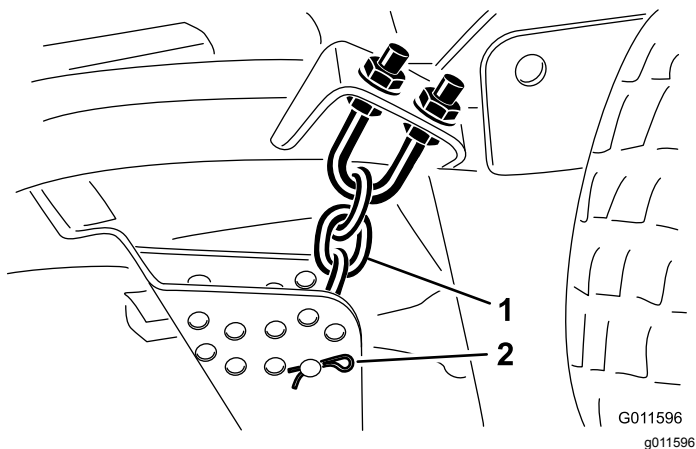

Figure 19
- Remove the hairpin cotter and clevis pin securing the height-of-cut chains to the rear of the mower deck (Figure 19).